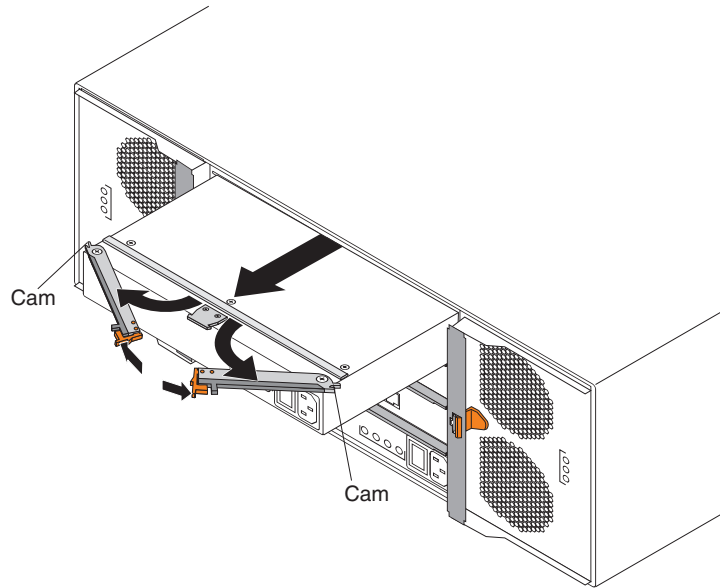

Figure 52. Replacing a power supply
9. Squeeze the latches together and pull the levers open to release the power supply from the enclosure. The latches are the orange colored tabs on the levers (see Figure 52 on page 109).
11. Slide the new power supply FRU into the empty bay. As you slide the power supply into the empty bay, make sure that the cams on both levers fit into the corresponding slots in the enclosure (see Figure 52).